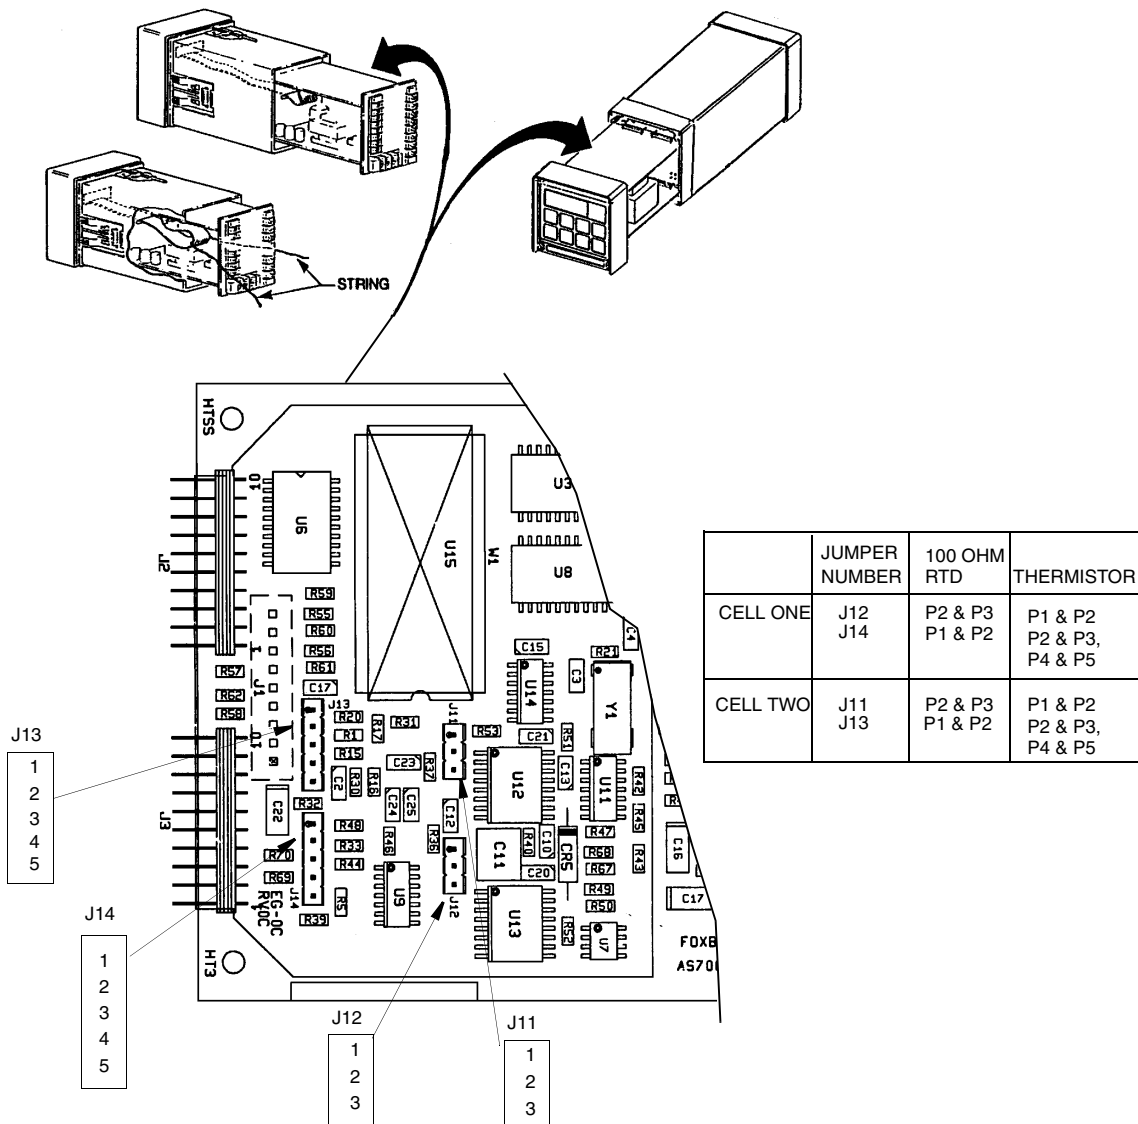

Figure 18. Jumpers for Temperature Compensation
4. Refer to Figure 18 on page 49 to identify jumper locations.
On the plastic enclosure, a string must be rigged through the loop in the ribbon cable such that when the board assembly is slid into the housing, the string/ribbon cable may be pulled back simultaneously, thus preventing damage to the cable. See Figure 18 on page 49.